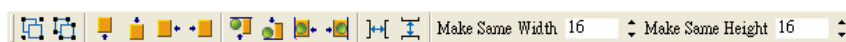

Figure 2-21 Object arrangement toolbar
- **Object arrangement toolbar:** It provides the buttons needed for adjusting the positions of objects and arranging objects, as shown in Figure 2-21. Users can move an object or several objects in the page editing area downward/upward/leftward/rightward by means of . Users can group or ungroup several selected objects by means of . The objects in a group can be copied or rearranged. Besides, users can align several objects to the top/bottom/left/right side by means of . Horizontal and vertical alignment of the objects can be done by clicking , and the sizes of multiple objects can be modified at one time by entering values in the fields of Make Same Width and Make Same Height.